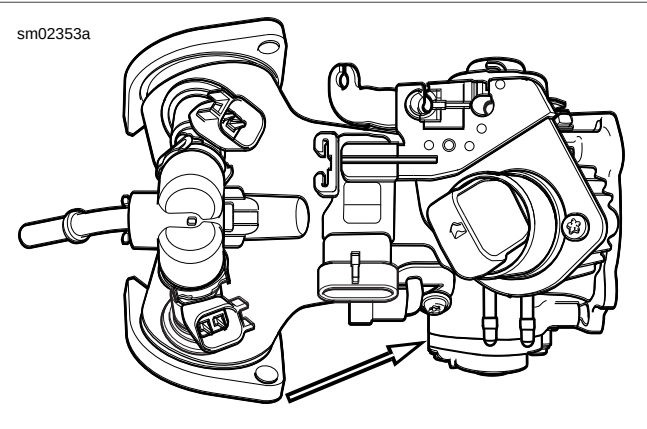

Figure 4-13. Throttle Position Sensor
4. See Figure 4-13. Unplug TP sensor connector [88].